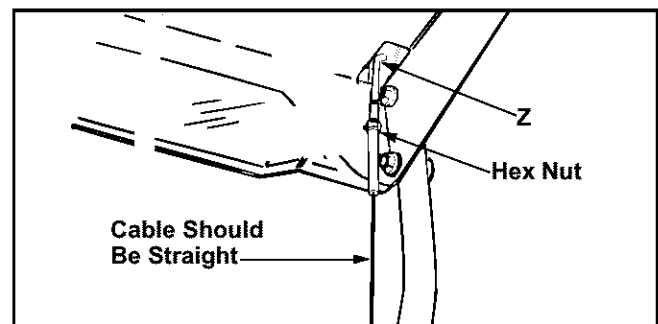

Figure 9
- Thread the cable onto the threaded portion of the "Z" end until there is no slack in the cable, but the cable is NOT tight. Do not overtighten cable. See Figure 9.
- If necessary, loosen the hex jam nut and thread the cable in (for less slack) or out (for more slack) as necessary. Refer to Figure 9. Recheck the adjustment.